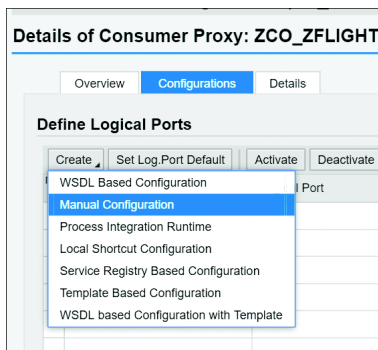
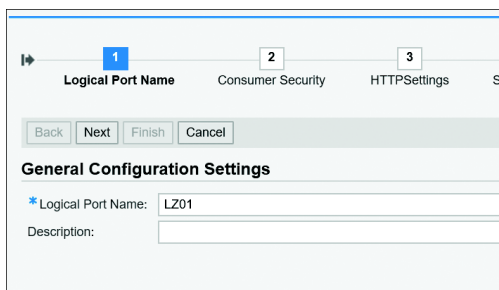

Figure 19.94 Create Manual Configuration
Figure 19.95 Maintain Logical Port
2. Select the consumer proxy you created and click the CREATE • MANUAL CONFIGURATION (see Figure 19.94) option to create a logical port name (see Figure 19.95). A *logical port* is used for configuration of the runtime services of the client proxy.